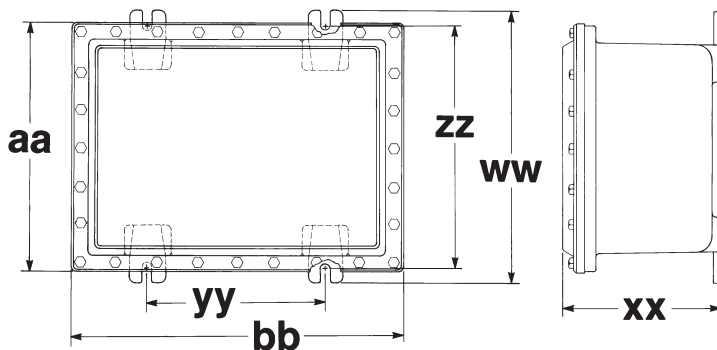
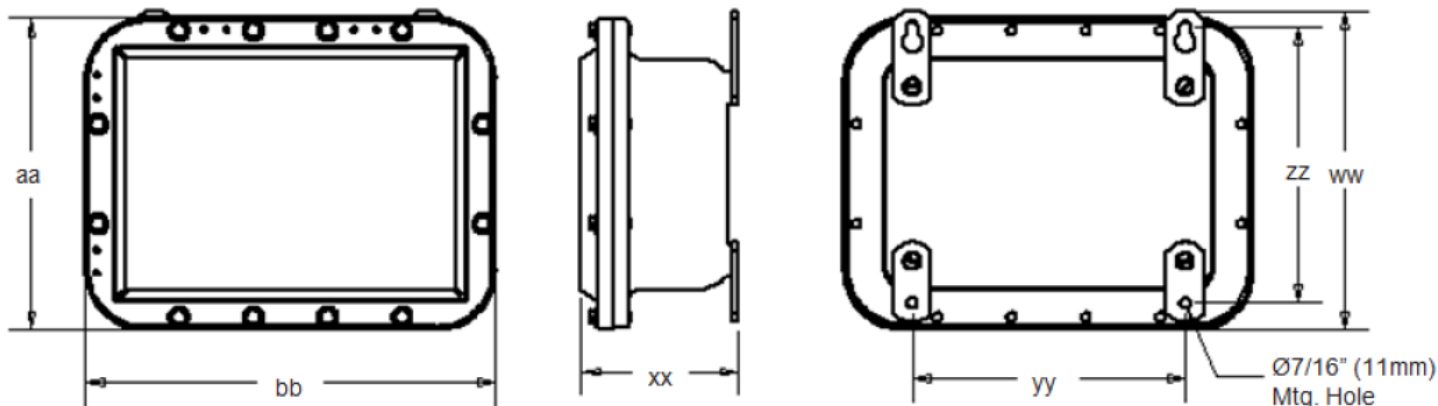

Figure 1
Figure 2
1. Select a mounting location that will provide suitable strength and rigidity for supporting all contained wiring and control devices. Figure 1 shows the EJB Style C mounting feet locations for the four (4) detachable mounting feet. Table 1 shows EJB Style C mounting dimensions. Figure 2 and Table 2 show the mounting feet locations and dimensions for EJB Style D.